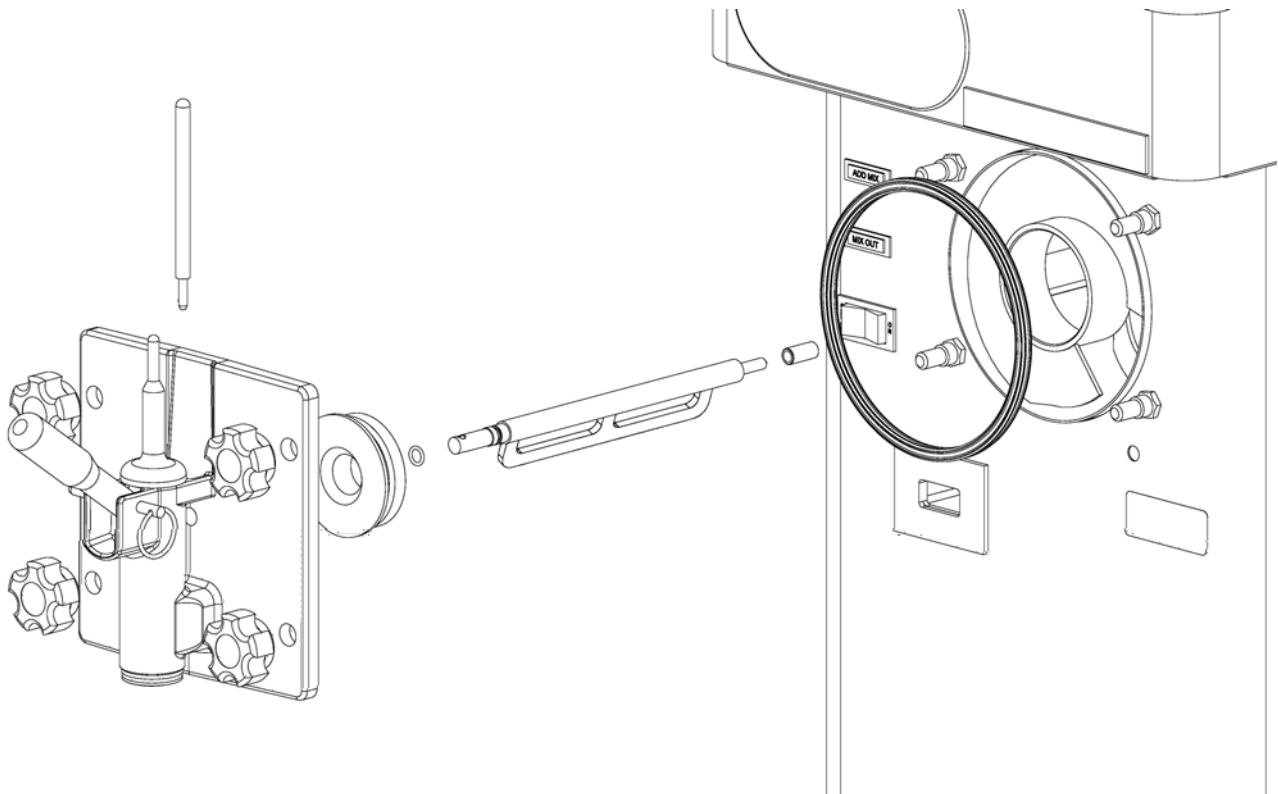

Figure 3-10 Door and Stator Assembly
- H. Install auger support bushing onto front door so beveled edge of bushing is against door (Refer to Figure 3-10).